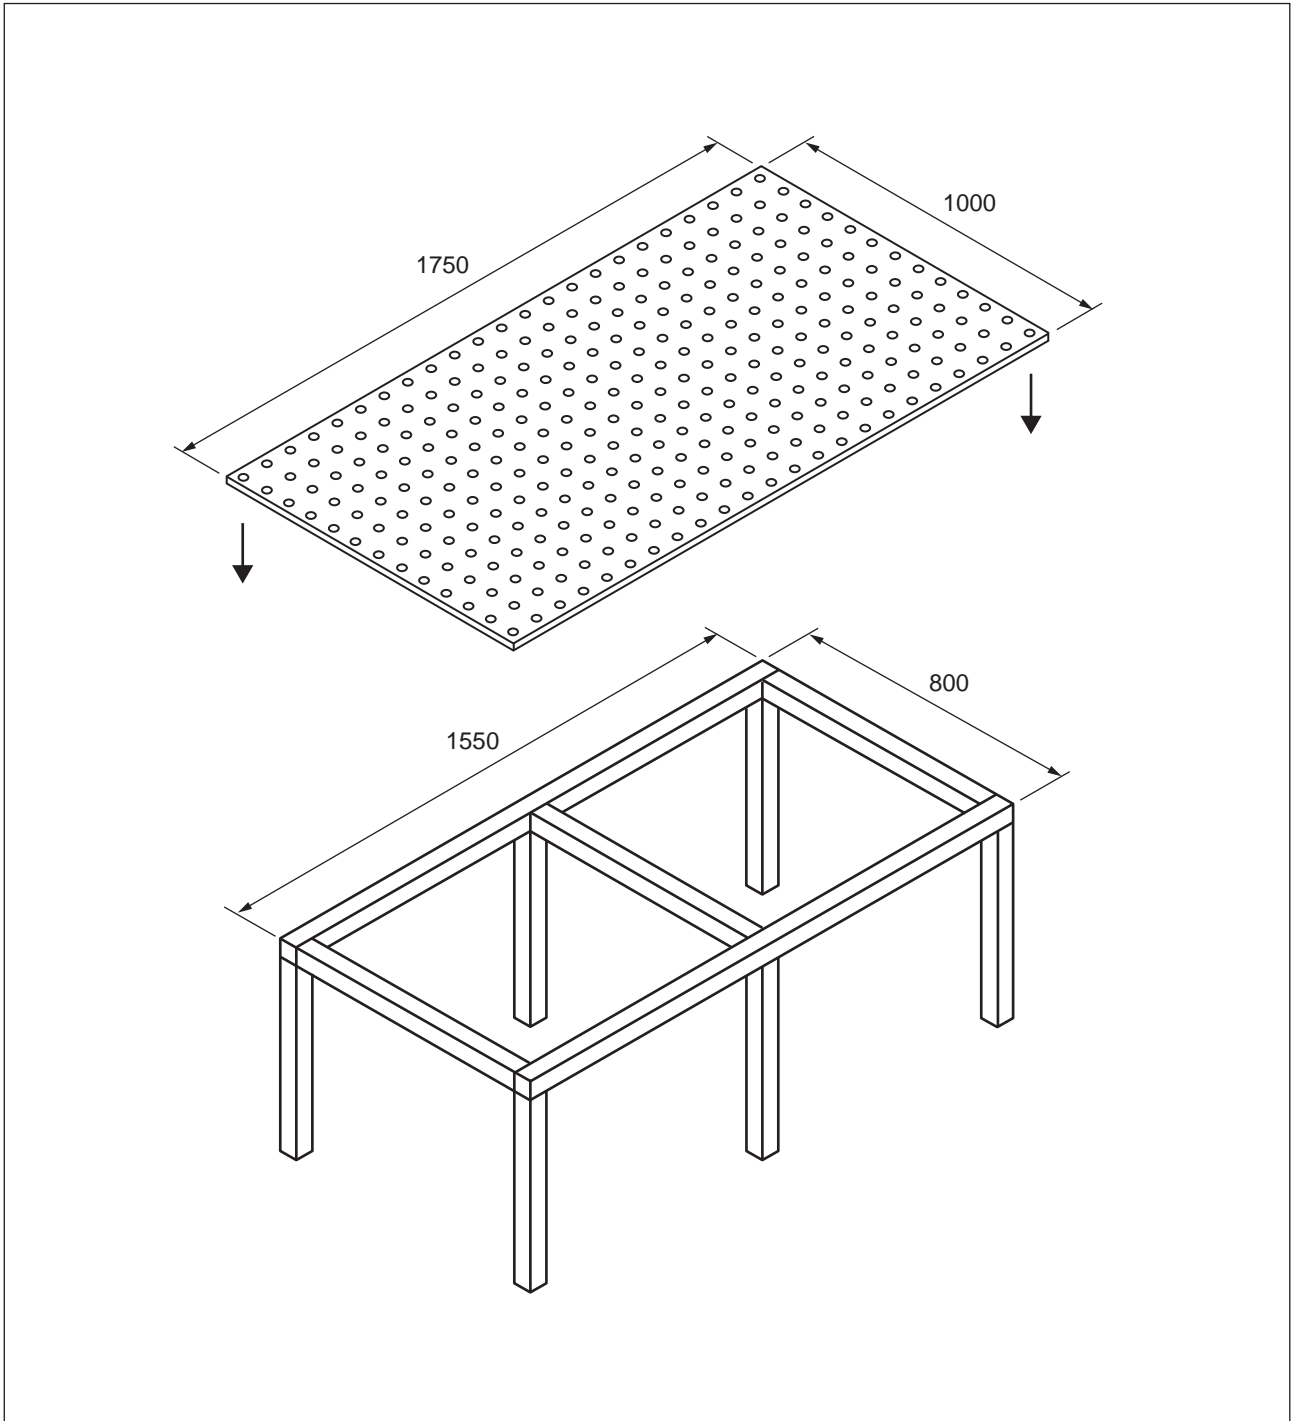

Figure 21
e. Figure 21 shows the top and frame of the welding table, which need to be joined together.